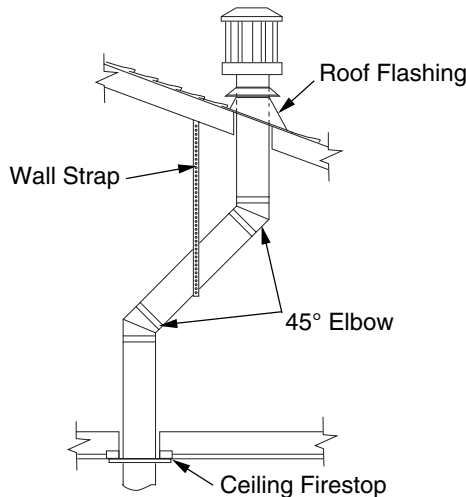

Figure 19 - Offset with Wall Strap and 45° Elbows
1. Determine the route your vertical venting will take. If ceiling joists, roof rafters, or other framing will obstruct the venting system, consider an offset (see Figure 19) to avoid cutting load bearing members. *Note:* Pay special attention to these installation instructions for required clearances (air space) to combustibles when passing through ceilings, walls, roofs, enclosures, attic rafters, etc. Do not pack air spaces with insulation. Also note maximum vertical rise of the venting system and any maximum horizontal offset limitations.
Note: If an offset is needed to avoid obstructions, you must support the vent pipe every 3 feet. Use wall straps for this purpose (see Figure 19). Whenever possible, use 45° elbows instead of 90° elbows. The 45° elbow offers less restriction to the flow of the flue gases and intake air.
5. Place the flashing over the pipe section(s) extending through the roof. Secure the base of the flashing to the roof and framing with roofing nails. Be sure roofing material overlaps the top edge of the flashing as shown in Figure 19. There must be a 1" clearance from the vent pipe to combustible materials.